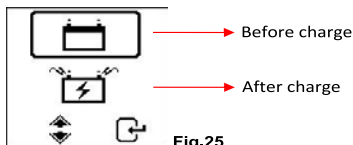

Fig.25
- Sometimes the analyser will prompt and ask whether the battery has been charged or before charge (Fig.25) during the testing. Selecting "Before charge" or "After charge" will determine its final test results.